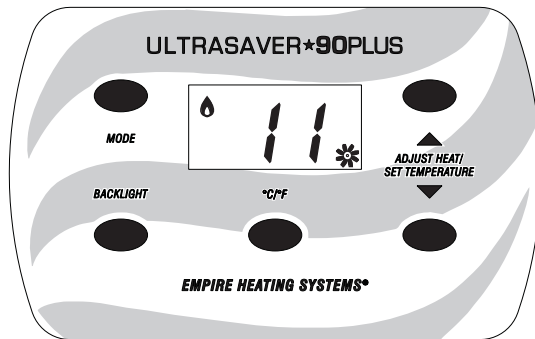

Figure 59
- After 45 to 70 seconds, the circulating air blower will activate. The circulating air blower speed will be set by the heat level and will display on the display. **See Figure 59.**